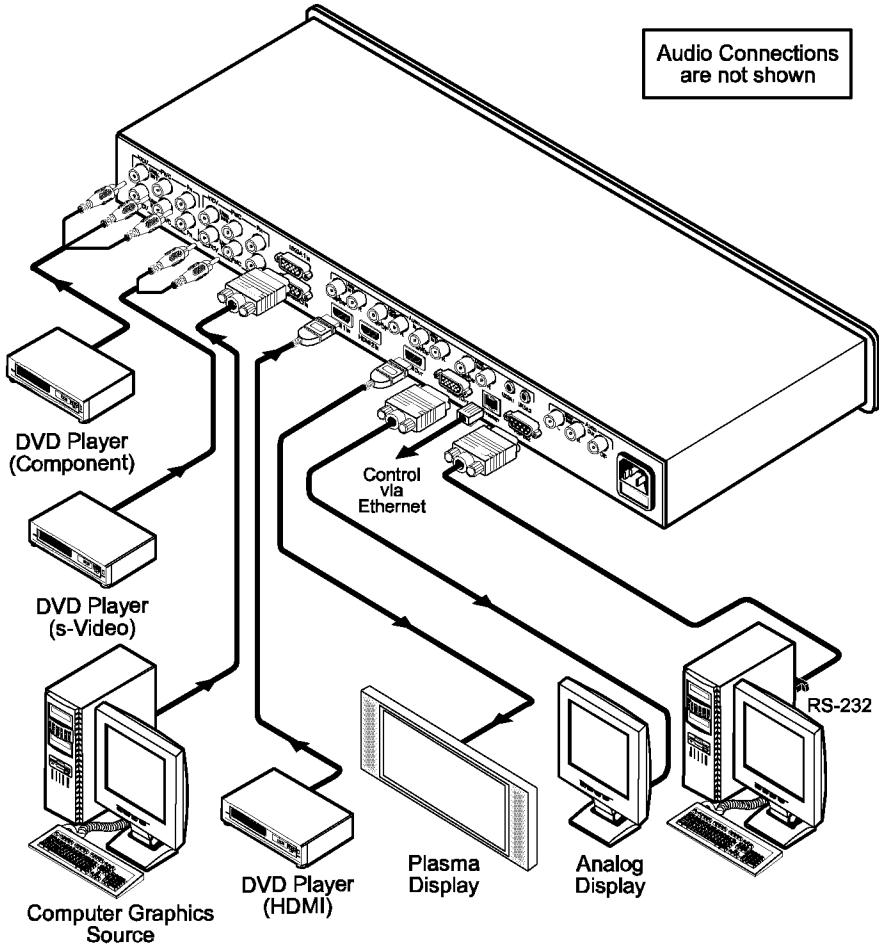

Figure 3: Connecting the VP-729 Rear Panel
To connect¹ the **VP-729** as illustrated in the example in Figure 3, do the following²:
- A graphics data source (for example, JPEG files from a PC or a USB flash drive) to the USB connector on the front panel of the machine (not illustrated in Figure 3)
2. Connect the unbalanced stereo or digital audio sources⁵ (not illustrated in Figure 3):
4. Connect the AUDIO OUT L and R unbalanced stereo audio output and/or the S/PDIF digital audio output to audio acceptors, for example, speakers (not illustrated in Figure 3).
5. Connect the power cord¹ (the power connector is not illustrated in Figure 3).